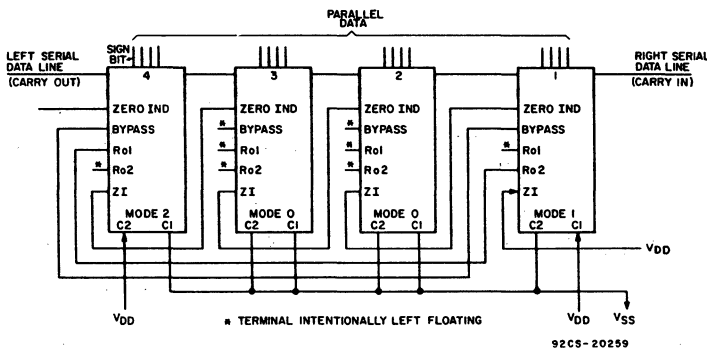

Fig.7 - Connection for 16-bit Arithmetic Logic Unit.
Data-flow interruptions are shown by shaded areas. With these three ALU's and the four available modes, 61 more system combinations can be formed. If 4 ALU's are used, 4⁴ combinations (256) are possible. Fig. 7 shows a diagram of 4 CD4057A's interconnected to form a 16-bit parallel processor.
The condition of "all zeros" is indicated by a "1" on the Zero Indicator terminal of the "Most Significant" CD4057A. As shown in Fig. 7, terminal ZI of the CD4057A containing the least significant set of bits is connected to V_{DD} . Zero indication is independent of modes.